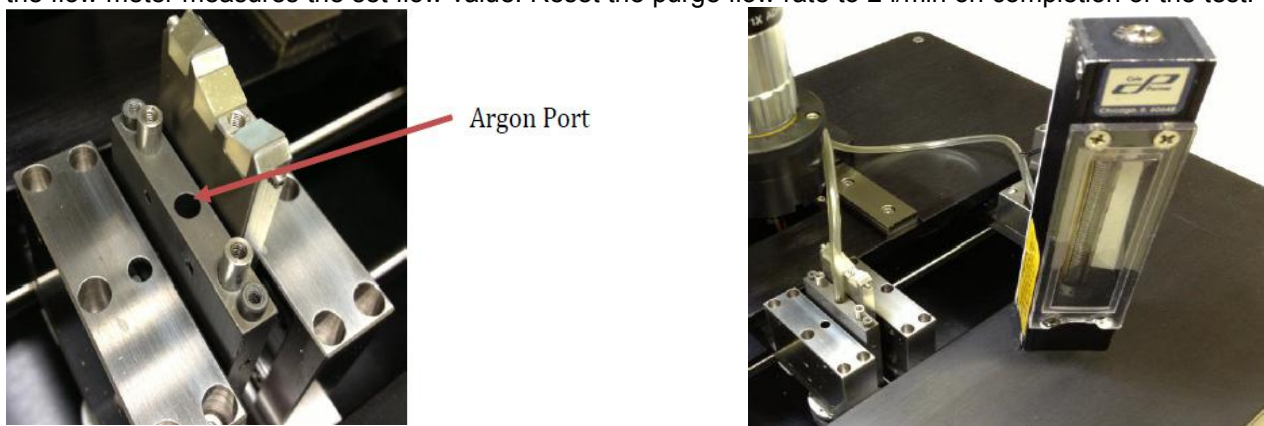

Figure 33 Image of Argon Gas Port (Left). Flow Meter in Vertical Position (Right)
6. Insert the flow meter tube into the argon port as shown in Figure 33. Place the flow meter vertically on a solid surface for the most accurate reading.